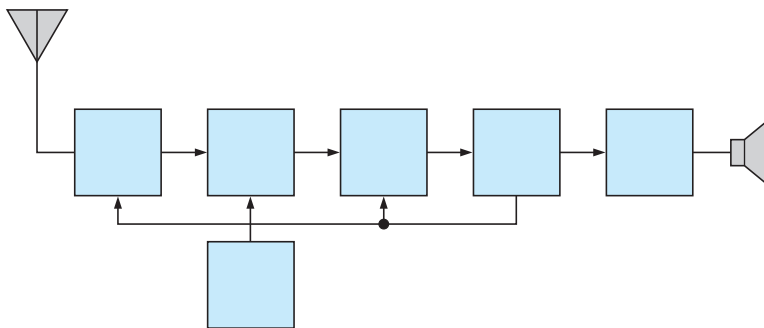

FIGURE 13-50
1. Label each block in the AM receiver in Figure 13-50.